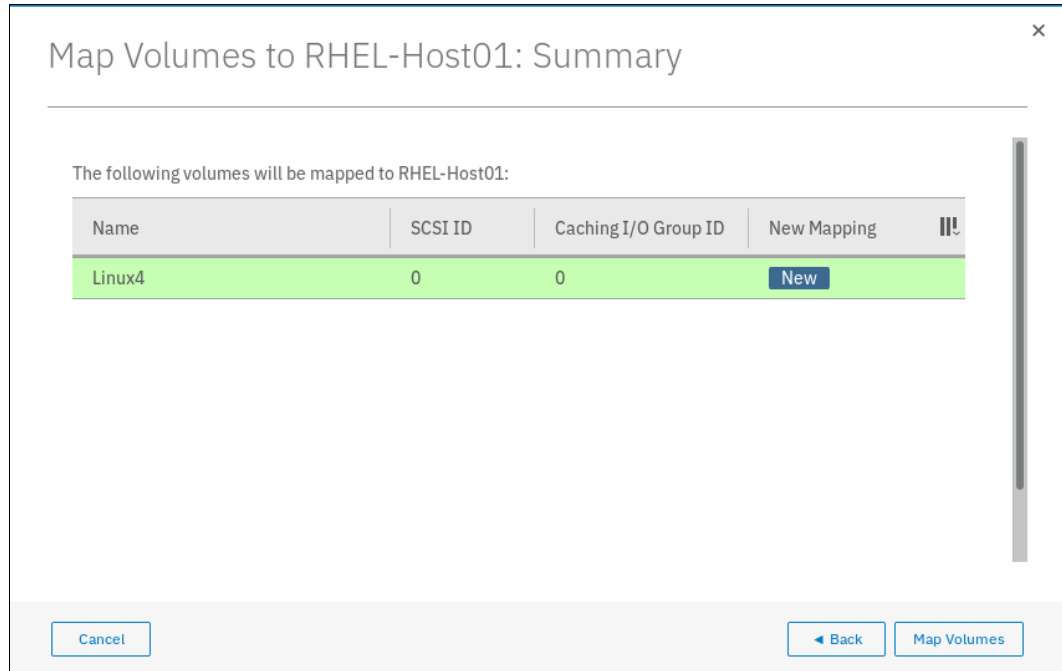

Figure 6-19 Map volume to host
4. Click **Next**. A window opens in which mapped volumes to that host are listed along with the new volume to be mapped, as shown in Figure 6-19.